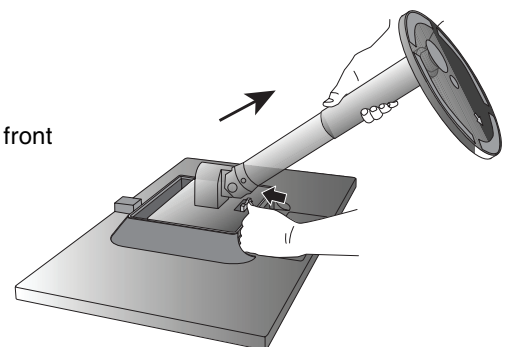

Figure S.1
3. Place monitor face down on a non-abrasive surface (**Figure S.1**).
4. Place one hand around the stand and one hand on the Quick Release Button. Push the Quick Release Button in the direction indicated by the arrows (**Figure S.1**).
5. Lift up the stand to unlatch the upper hook and remove the stand (**Figure S.1**).